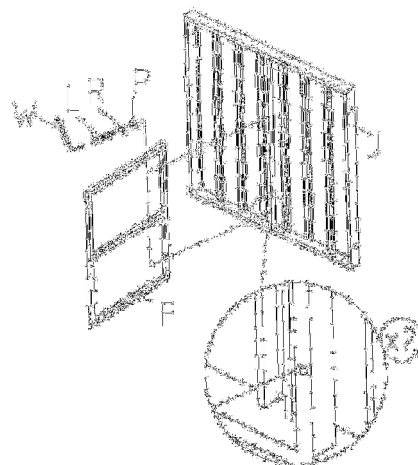

Figure 1
1. Attach the divider (F) to the back (J) with 2 bolts $\frac{1}{4}$ in x 30 mm (L), 2 flat washers (P) and 2 spring washers (R) by using the Allen wrench (W) as shown on the right,(see Figure1).